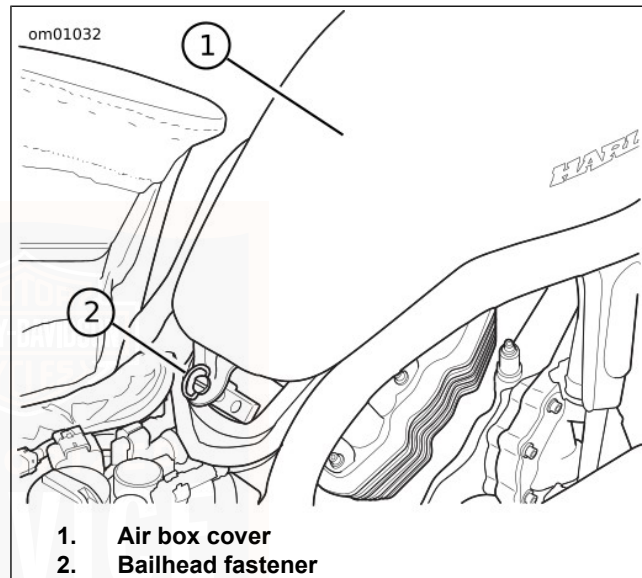

Figure 31. Air Box Cover
3. See Figure 31. Remove the air box cover by turning the bailhead fastener 1/4 turn counterclockwise. Pull the air box cover away from the front locating holes.